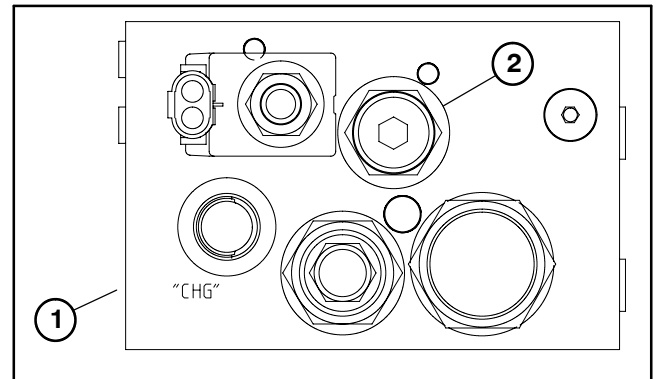

Figure 38
7. Relief valve (RV5) is located on the lower, front side of the 2WD/4WD control manifold (Fig. 38). Adjustment of the relief valve can be performed as follows: